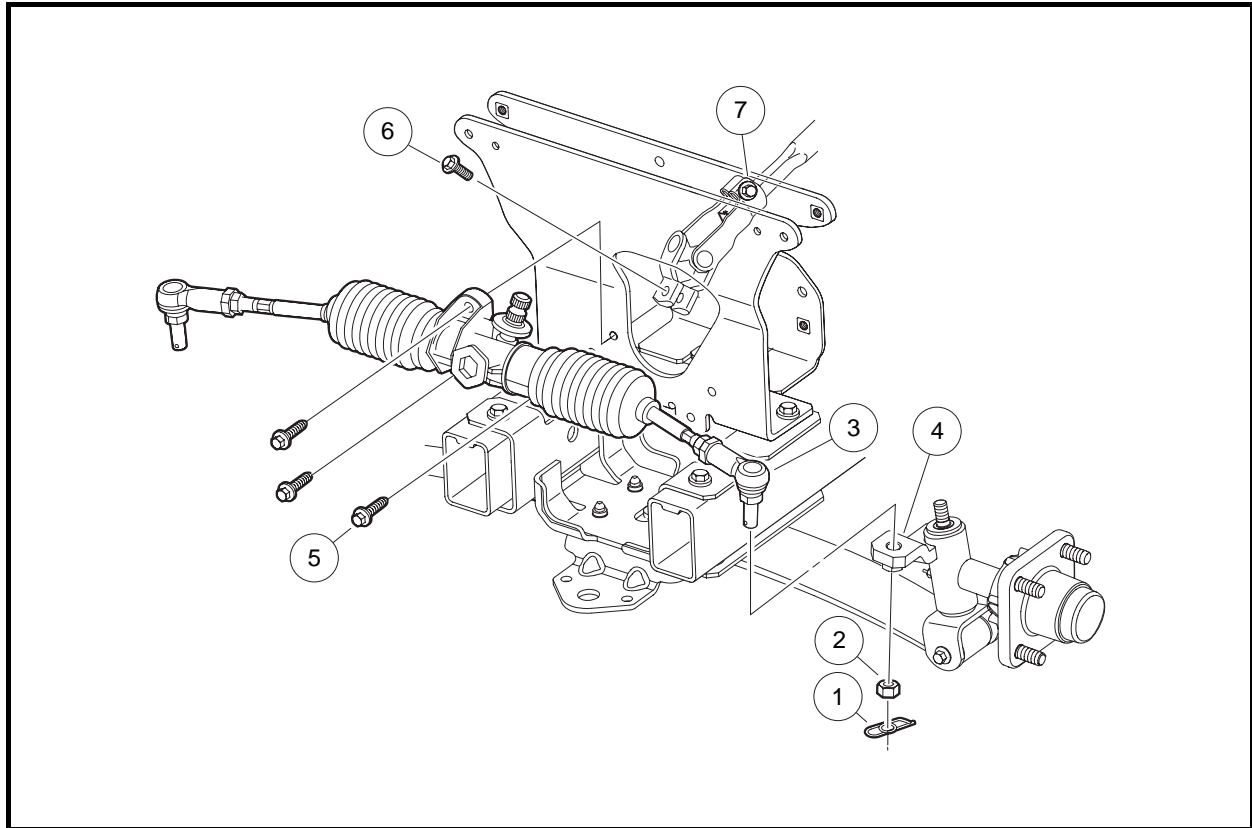

Figure 7-4 Rack and Pinion Removal
2. Remove the retaining pins (1) and tie rod end retaining nuts (2) **(Figure 7-4, Page 7-5)**.
3. Remove the tie rod ends (3) from the spindle assemblies.
4. Remove the three bolts (5) from the steering rack and pinion assembly mounting bracket.
5. Remove the bolt (6) from the universal joint, then remove the rack and pinion assembly and universal joint from the vehicle.
5. Install the tie rod ends (3) into the left- and right-hand spindle tabs (4), and then install the retaining nuts (2) (**Figure 7-4, Page 7-5**). See following **WARNING**.